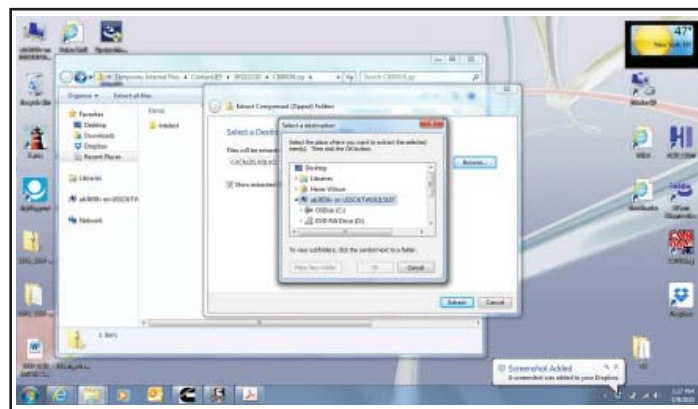

Figure 8 - Selecting your Drive
- 1.8. Go into your drive. See Figure 8.